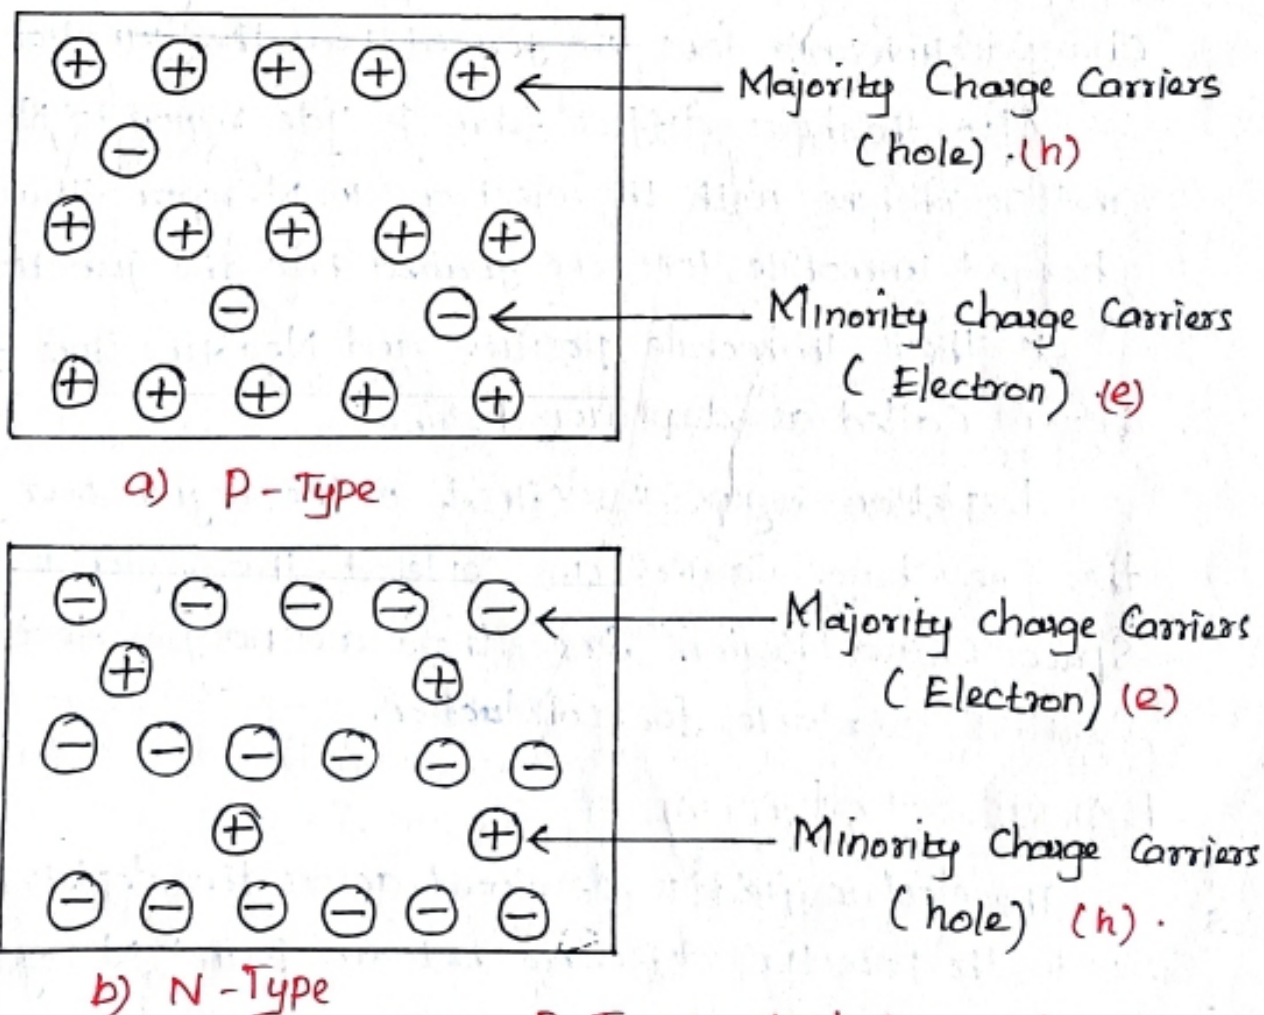

Fig. 1. P-Type and N-Type Material
The majority charge carriers are electrons and ^{N-type} has higher concentration of free electrons than holes as shown in fig. 1 (a).
- The Majority Charge Carriers are holes and P-type material has higher concentration of holes than electrons as shown in fig. 1 (b).